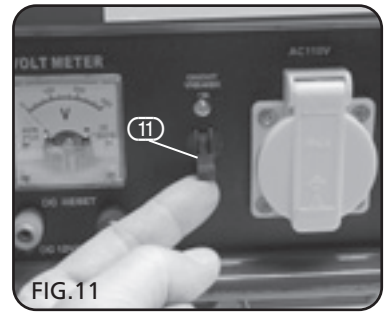

FIG.11
2. Lift the safety switch up to the "ON" position (Fig.11).